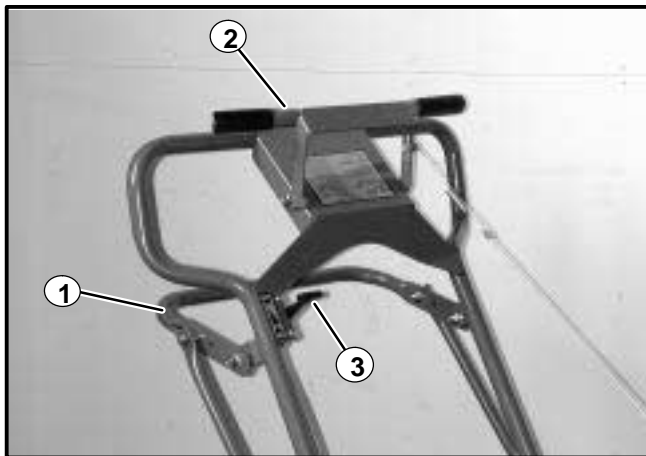

Figure 8
2. Pull up on the transport lift handle to raise the aerator to the transport position. See Figure 8. Carefully roll the unit off the pallet.
Pushing down on the handle lowers the tines for aerating. Pulling the handle up raises the tines so the aerator can be moved or transported without incurring damage to the unit or the turf. See Figure 8.
Engages the belt tightener clutch. Pulling back on the handle engages the clutch; releasing the handle disengages the clutch. See Figure 8.
The throttle control adjusts the engine speed. Pushing the control forward increases the speed; pulling the control back reduces the speed. See Figure 8.